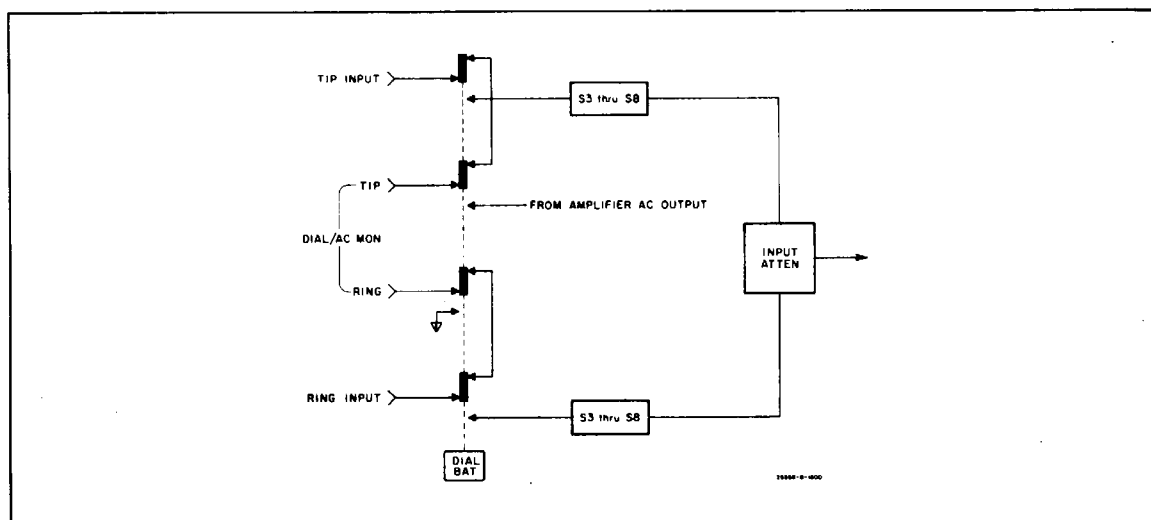

Figure 4-2. Simplified DIAL BAT Function
- b. DIAL BAT: (See Figure 4-2) The DIAL BA1 pushbutton serves two purposes. First it disconnects the meter from the detector and connects it to the unregulated power supply so that the battery voltage can be monitored. Secondly, the DIAL/AC MON jacks are disconnected from the amplifier ac output and connected to the INPUT jacks. This permits connecting the lineman's handset to the balanced line for the purpose of dialing.